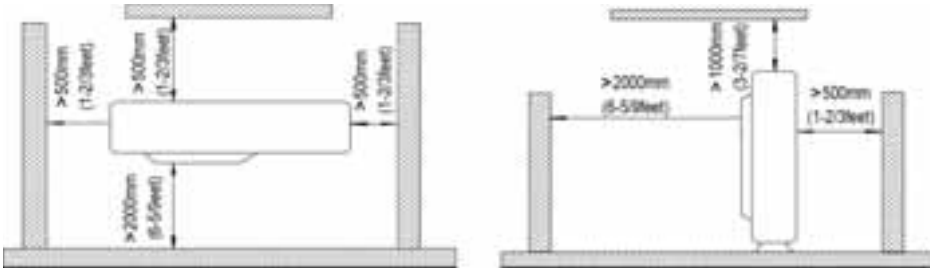

Fig. 3.2
- (4). Do not place animals and plants in the path of the warm air.
- (5). Check the support structure to verify that it has sufficient load-carrying capacity to support the weight of the unit. Mount the unit securely to reduce vibration noise.
- (6). Provide the space shown in Fig. 3.2, so that the air flow is not blocked. Also for efficient operation, leave three of four directions of peripheral constructions open.